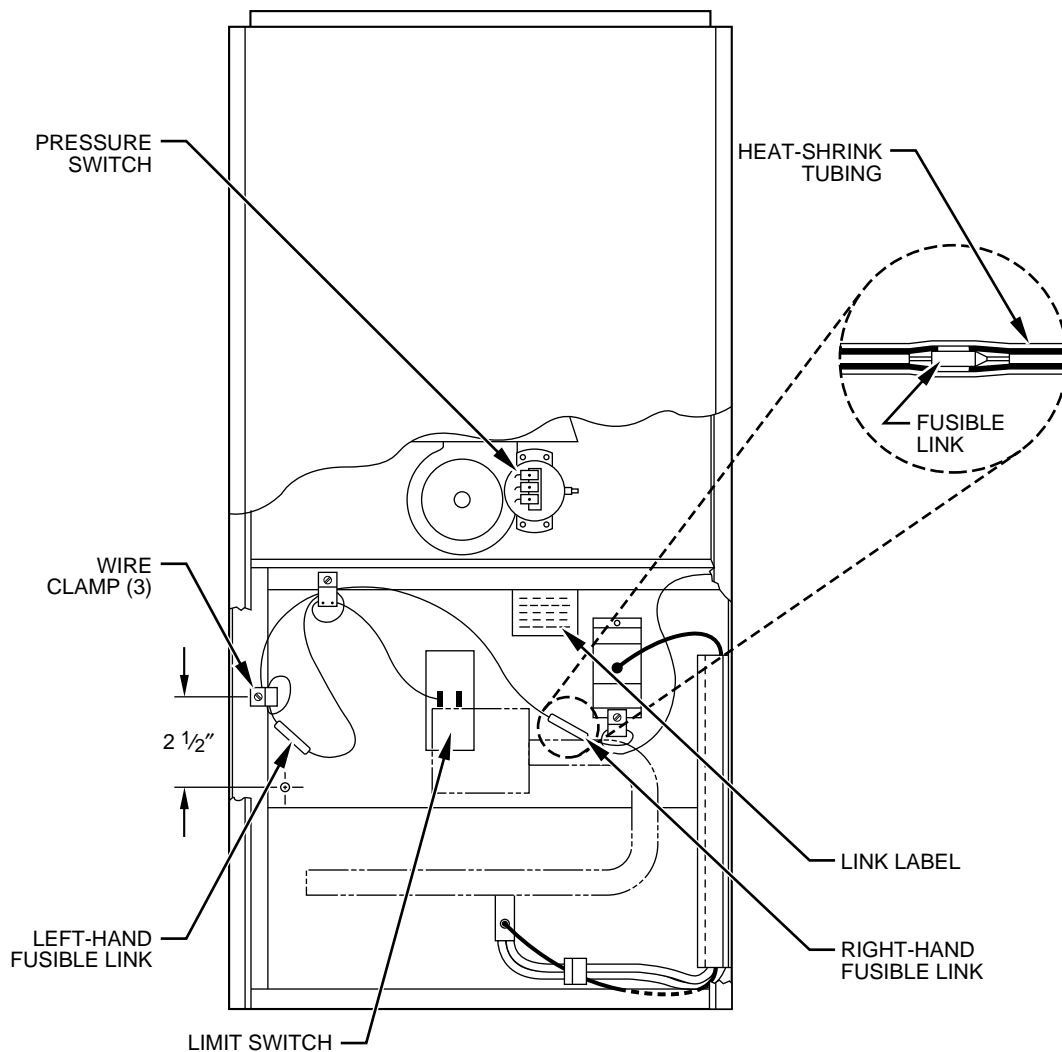

Fig. 2
Step 2—For Fuse Links As Applied In Fig. 2
NOTE: Refer to the fuse links as right-hand (RH) and left-hand (LH) as they appear in Fig. 2.
6. Route wire through wire clamp and position fuse link as shown in Fig. 2.
7. Insert other stripped end of furnace wire into other connector of fuse link. Crimp connector. Be sure fuse link is positioned as shown in Fig. 2.
If the fuse link is not positioned exactly as shown in Fig. 2, serious damage to the equipment and/or structure may result during abnormal operating conditions.
8. Install fuse link label as shown in Fig. 2.
6. Route furnace wire through wire clamp and position fuse link as shown in Fig. 2.
7. Connect other end of fuse link to furnace wire with quick-connect connector. Be sure fuse link is positioned as shown in Fig. 2.